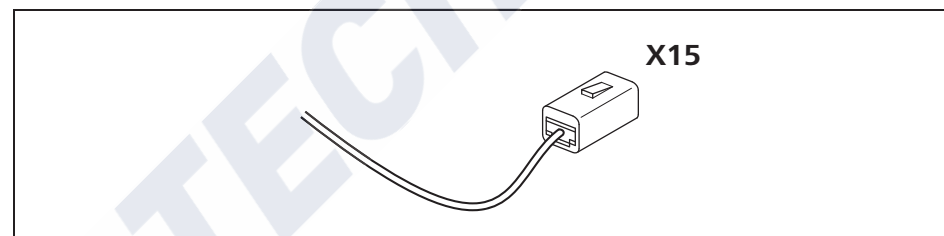

Fig. 49 Connector for CO2 calibration
- Use X15 connector for CO2 calibration (only for Webasto service workshops). See Fig. 49.